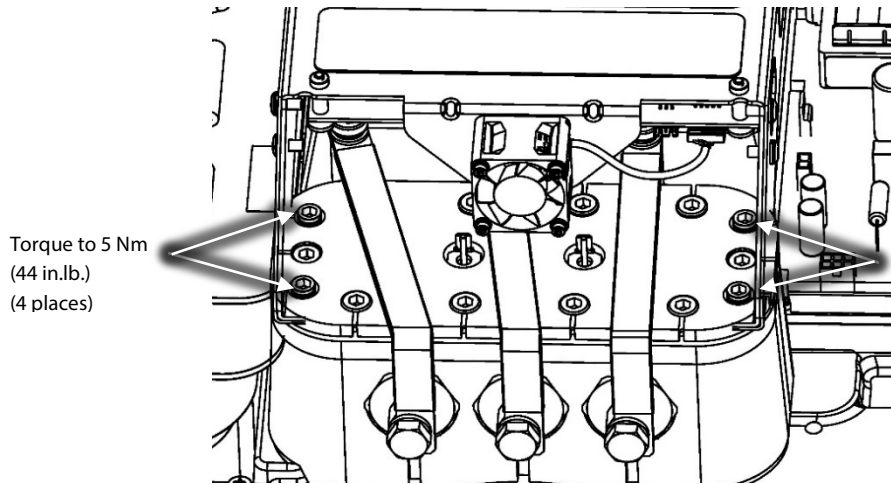

Figure 3 – Soft Start Mounting Screws
- Remove the M5x15 fasteners that secure the Soft Start mounting bracket to the compressor. Refer to Figure 3 (Soft Start Mounting Screws).